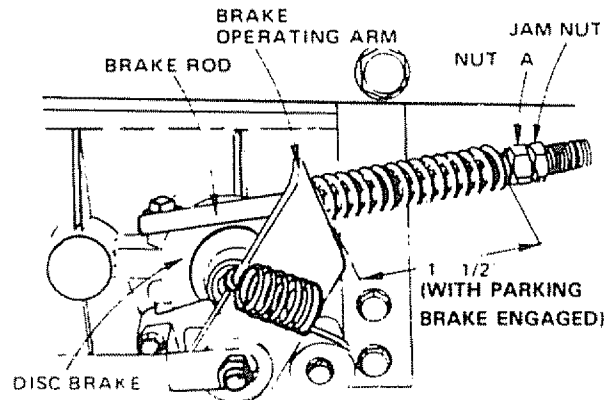

FIGURE 19
This tractor is equipped with an adjustable brake system mounted on the right side of the transaxle (Fig. 19).
- If distance is other than 1-1/2", disengage parking brake, loosen jam nut (Fig. 19) and turn nut "A" until distance becomes 1-1/2". Retighten jam nut against Nut "A".